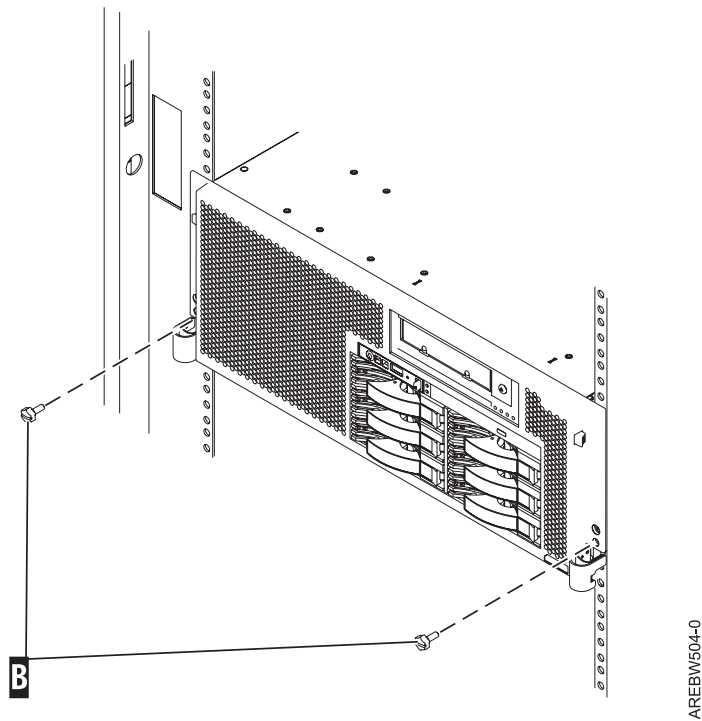

Figure 41. Secure system to rack through rack latches
12. Use the retaining screws to attach the rack latches to the rack as shown in Figure 41.